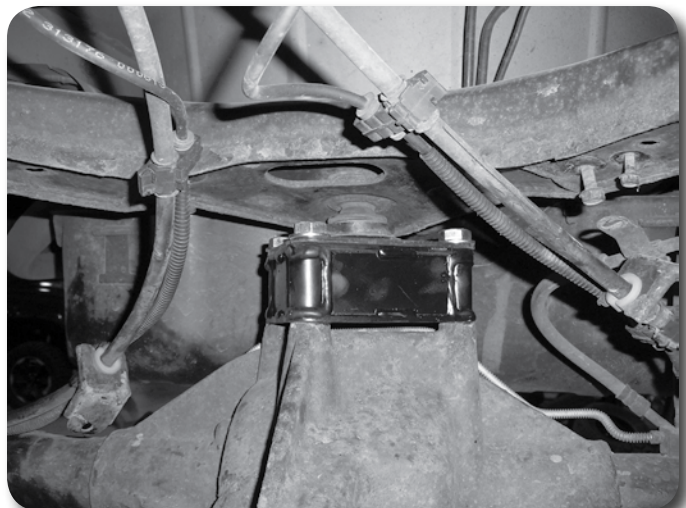

Figure 16
12. Install 3 new 14mm x 80mm bolts and washers into the holes of the upper control arm end. Apply Loctite to the 14mm bolt threads. Install the provided control arm spacer on the bolts and align the bolts to the holes in the differential. **Figure 16** Tighten the bolts and torque to approximately 100 ft-lbs.